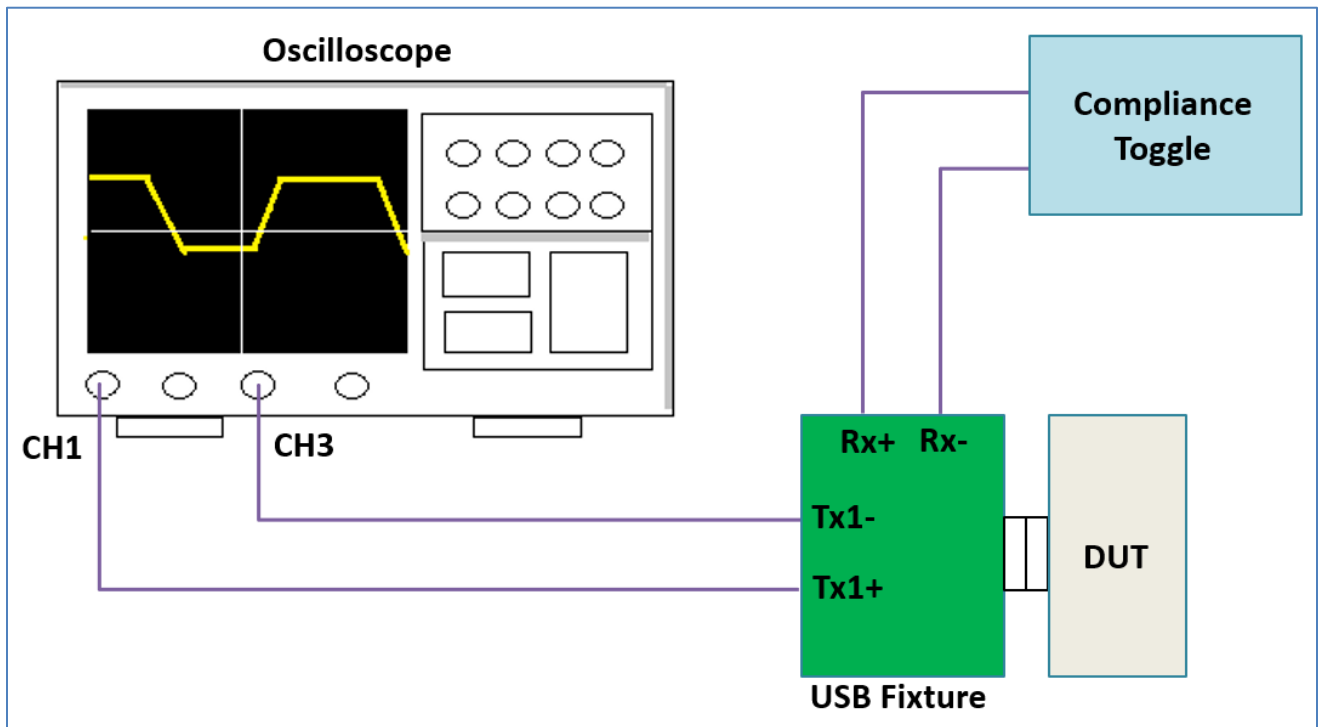

Figure 10. USB 3.2 Gen 1 Type-C (Host/Device) Test with Compliance Toggle Connection Diagram
5. If using a compliance toggle, connect the toggle to Rx+ and Rx- on the USB Fixture as shown in Figure 10 below.